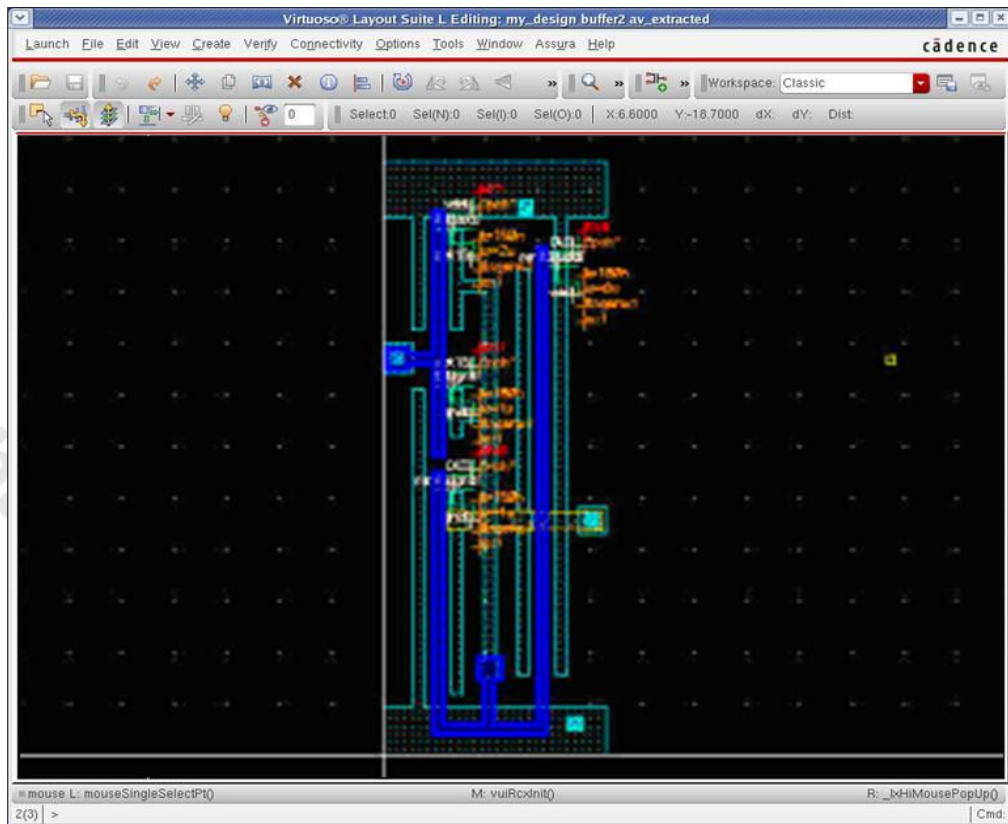

FIG. 27 Assura av_extracted view
4. Click “OK” to start the Assura RC extraction. After the RC extraction is completed, a new view (“av_extracted” view, Fig 27) which contains not only the original components but also the parasitic devices will be generated and then can be used for post-layout simulation.